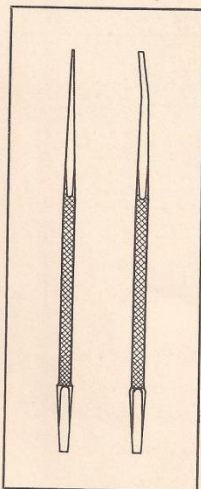

Fig. 6 — Hairspring Collet Remover
- Hairspring collet remover (Fig. 6)
1. Remove the hairspring with the hairspring collet remover (Fig. 6).
Fig. 6 shows a sketch of a very practical and handy tool to remove hairsprings. It can be made from a small rat tail file three or four inches in length, and ground to the shape illustrated. For a wide variety of work it may be necessary to have several sizes so the end that enters the hairspring collet slot (A in Fig. 9) will spread it